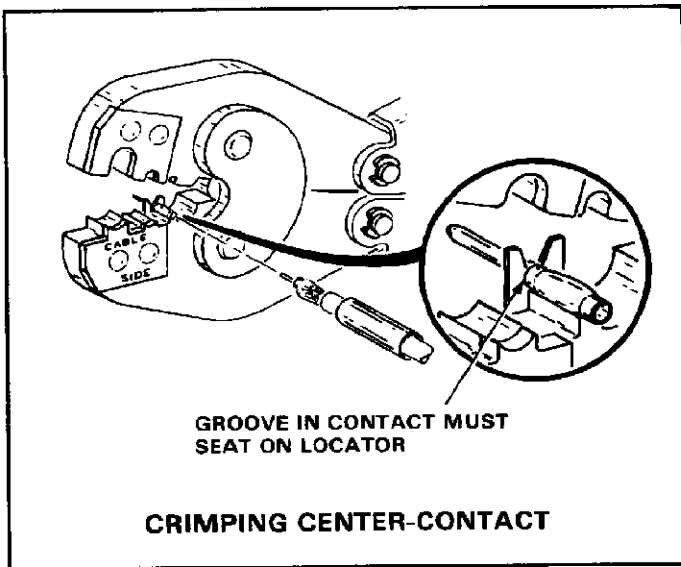

Fig. I-3
2. Place contact on locator of tool with groove in contact seating on locator, and close tool handles just enough to hold contact without deforming wire barrel. See Figure I-3.